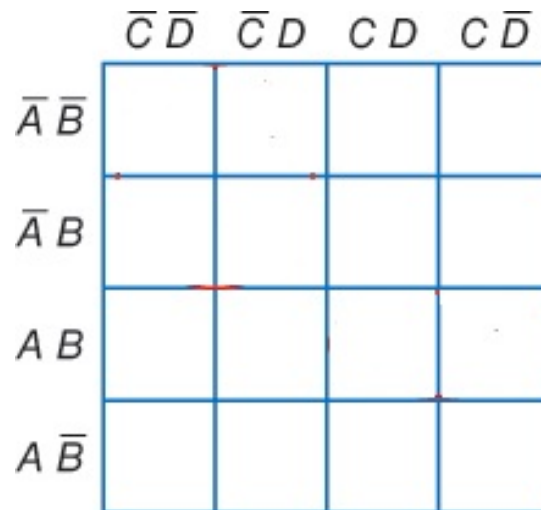

Figure 1
2.1. Use SOP Boolean equation from the truth table to complete a K-map in Figure 1.
2.2. Derive simplified Boolean Equation from the K-map in Figure 1.